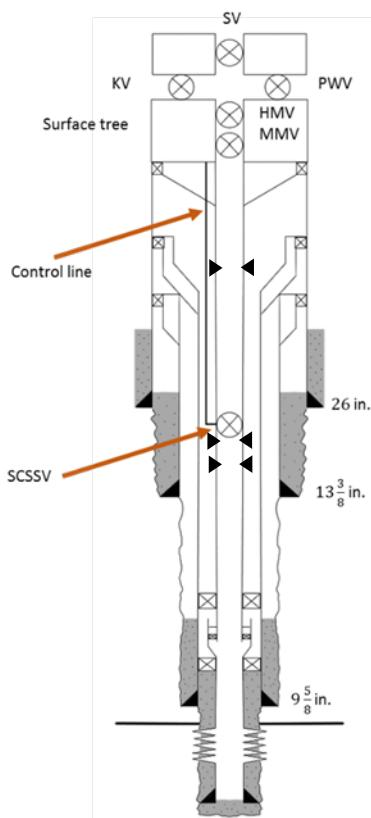

Figure 1 – A platform well completed with the vertical tree.
6. A platform well (see Figure 1) has been drilled and completed with a vertical tree in 1985. The top of cement (TOC) in the B-annulus is below the permanent packer and the well suffers from sustained casing pressure in the A- and B-annulus. Caliper log shows big holes along the production tubing (shown with triangle on the well schematic). Operator decided to permanently plug and abandon the well. Through the operation, BOP has been necessitated to control the well pressure. List primary and secondary well barrier elements for temporarily abandonment while dismantling the XMT. (10p)